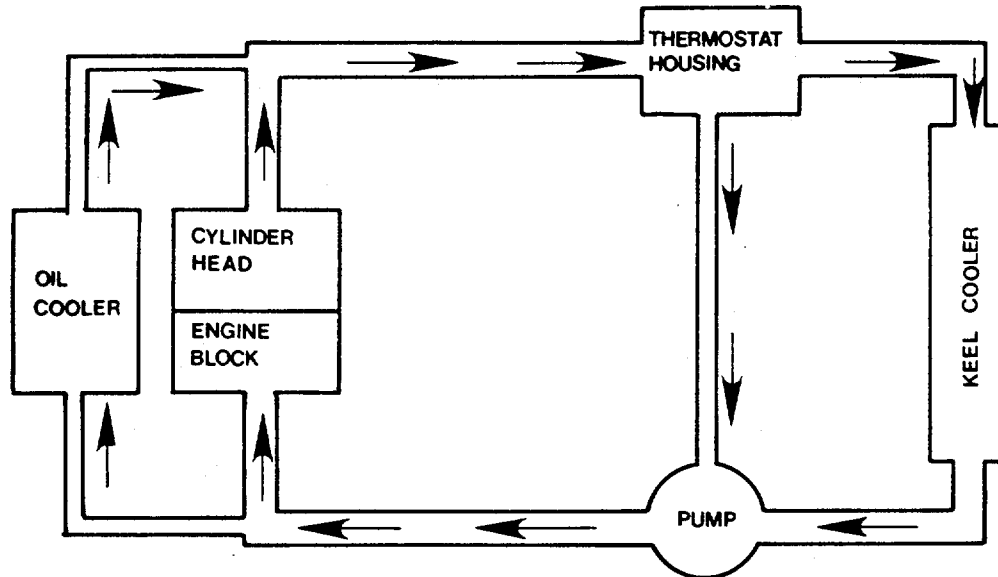

FIGURE 1-7. *Coolant Flow Path.*
(1) Coolant Flow Path. Water (coolant) is circulated by a centrifugal water pump mounted on front of the engine. The water pump is belt driven. Water circulates around wet-type cylinder liners, through the cylinder heads, and around the injector sleeves. Injector sleeves, in which the injectors are mounted, are designed for fast dissipation of heat. The engine has a thermostat to control engine operating temperature. Figure 1-7 shows the coolant flow path through the engine.